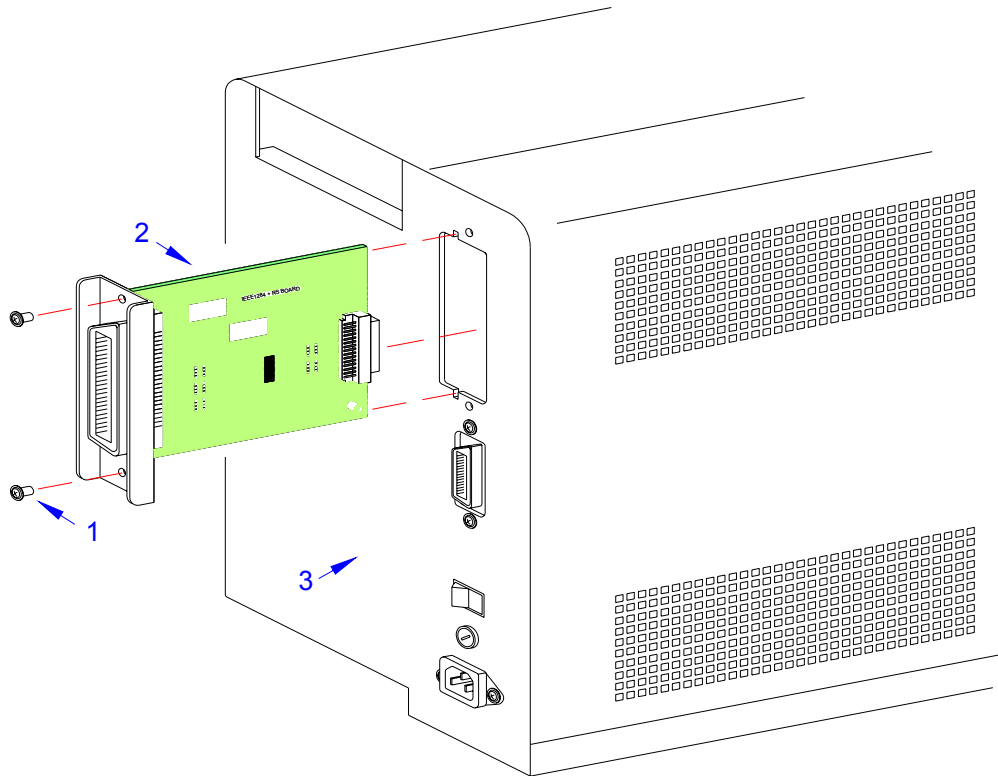

Figure 6-4, Interface Board Replacement
- 2 Remove two screws (1, Figure 6-4) securing interface board (2) to the exterior of rear housing cover (3).
- 3 Withdraw defective interface board (2) from the printer.
- 4 Insert replacement interface board (2) through the housing slot to connect with the main circuit board.
- 5 Secure interface board (2) to the rear housing cover (3) using two screws (1).